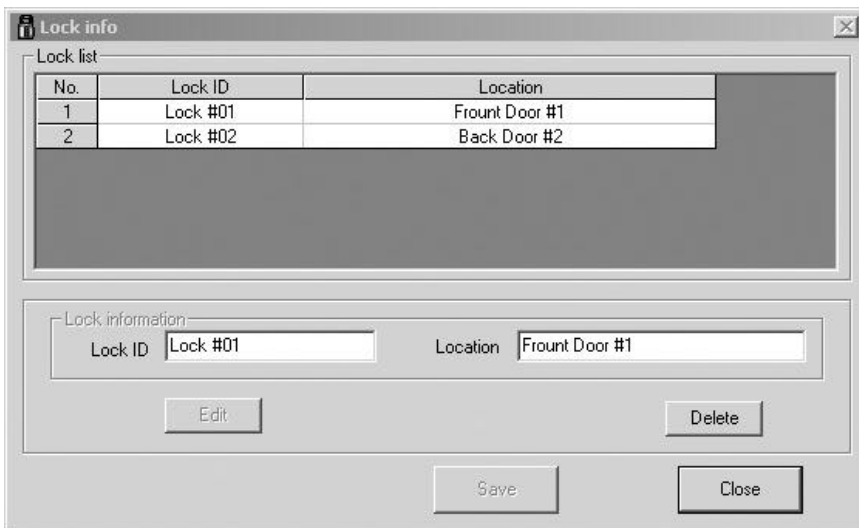

Figure 7
11.3.5. If the lock is communicating with the system for the first time, the “Lock Info” (Figure 7) will automatic pop up. You can click “Edit” to change the lock names and location. Click “Save” to save the setting and close the “Lock Info” window. If you don’t want edit the lock info, click “Close” to close the window.
Note: If the lock is already existing in the system, you still can click “Edit” in “Communication” window (Figure 6) to open the “Lock Info” window (Figure 7) for editing.